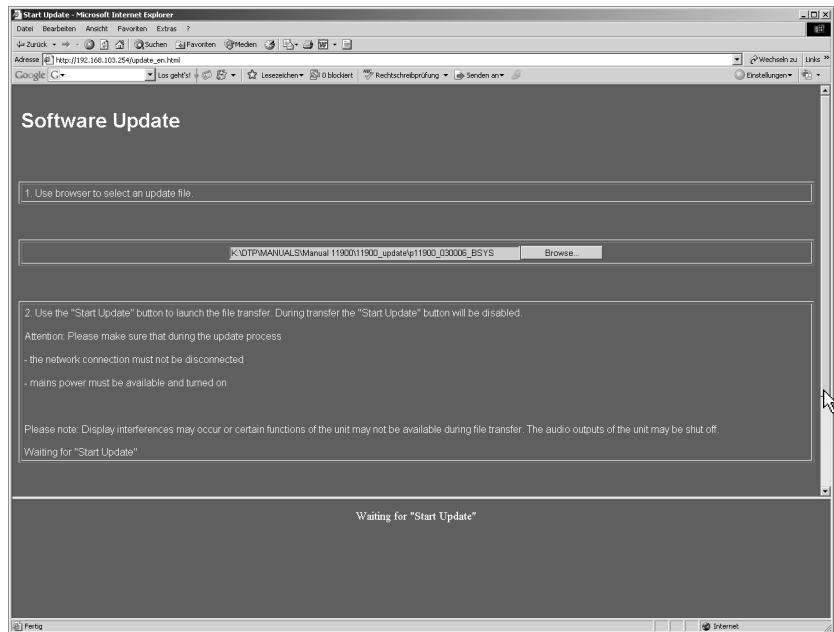

Fig. 8-5: Selection of the update file and moving the menu page with the scrollbar
5. After selecting the update file move the menu page upward by moving downward the grey scrollbar on the right (see mouse pointer in Fig. 8-5).